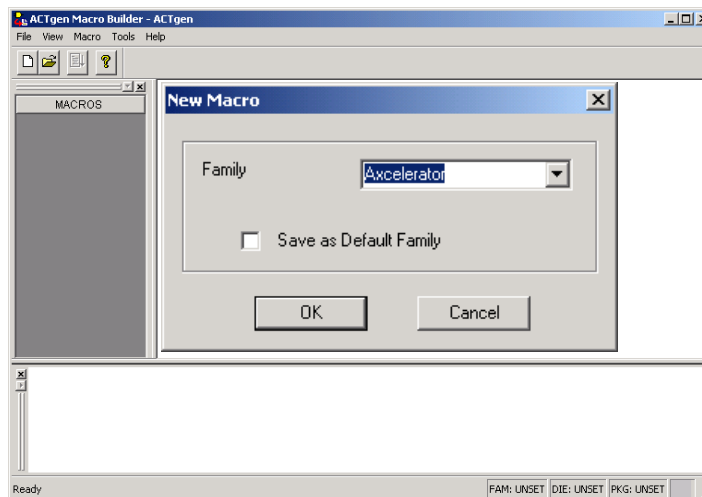

Figure 7 • Invoking ACTgen and Choosing the Axcelerator Family
- Select File -> New to select the AX Family as shown in Figure 7. Click OK.